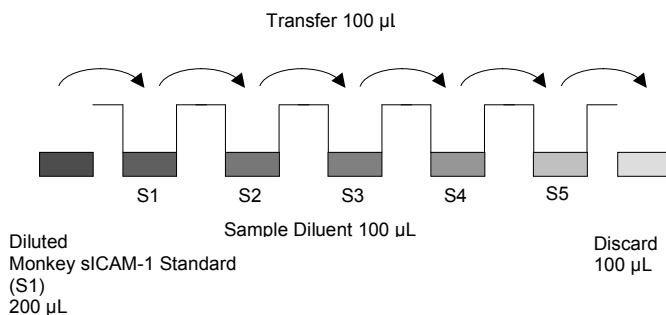

Fig. 1 Dilute standards - microwell plate
1. Add 100  $\mu\text{L}$  of Sample Diluent in duplicate to standard wells B1/2-E1/2, leaving A1/A2 empty. Pipette 200  $\mu\text{L}$  of diluted standard, (concentration of standard 1, S1 = 100.0 U/mL) in duplicate into well A1 and A2. Transfer 100  $\mu\text{L}$  to wells B1 and B2. Mix the contents of wells B1 and B2 by repeated aspiration and ejection, and transfer 100  $\mu\text{L}$  to wells C1 and C2, respectively (see Figure 1). Take care not to scratch the surface of the microwells. Continue this procedure 2 times, creating two serially diluted columns of monkey sICAM-1 standard dilutions ranging from 100.0 to 6.3 U/mL. Discard 100  $\mu\text{L}$  from the last microwells (E1, E2). Final volume in all wells is 100  $\mu\text{L}$ .